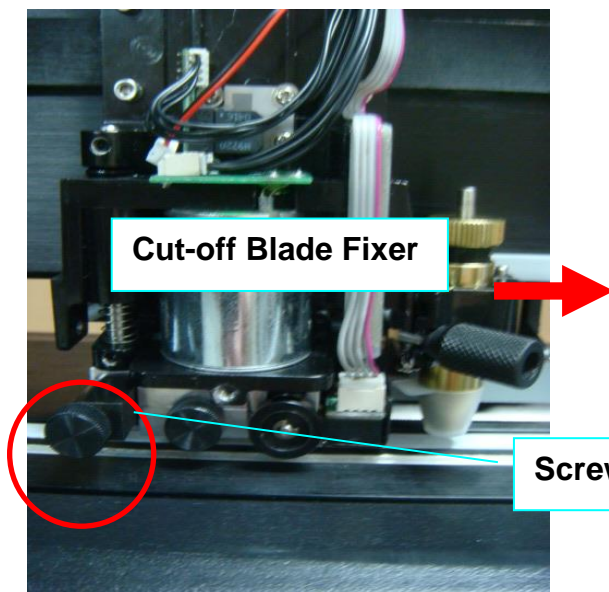

Figure 2-37
Step 4 Remove the screw on the left of the Cut-off Unit manually (Figure 2-37 and 2-38).